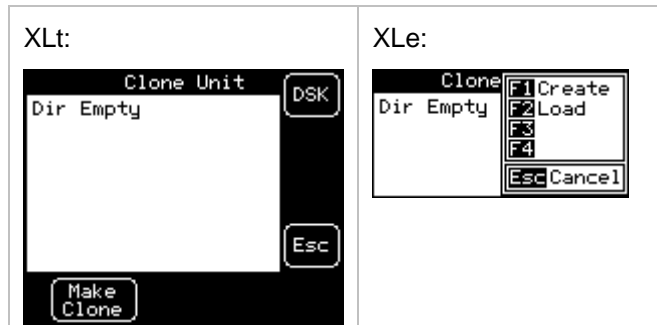

Figure 16-2 – Clone Unit Menu before Cloning
- a. In the above Figure16-2, F3 and F4 are inactive in Clone Unit.